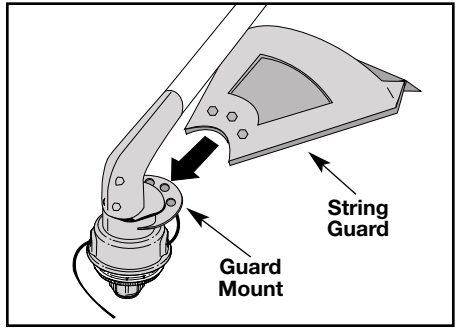

Fig. 2
1. Slide the string guard onto the guard mount above the string head assembly. Align the screw holes in the string guard with the screw holes in the string assembly (Fig. 2).